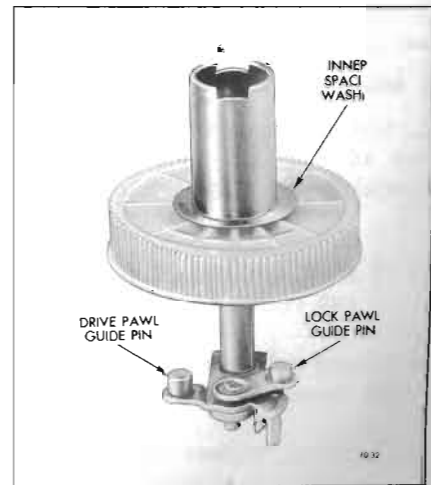

Figure 10-32—Assembling Gear Over Drive Shaft
3. Slide gear and tube over the drive shaft. See Figure 10-32. (Move drive and lock pawls as required to allow their respective pins to fit in the gear guide channel.)